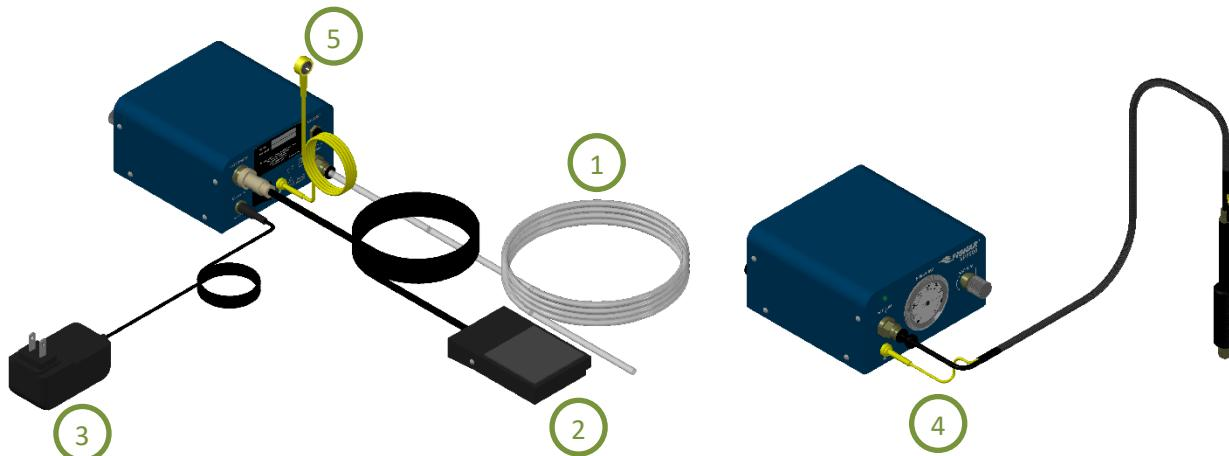

FIG. 4: Machine Setup
1.	Connect air hose (1) from compressed air 70-100 psi (5-7 bar) to the air inlet port on the back of the machine. See FIG. 4.
2.	Insert the Foot Pedal connector (2) to the port on the back of the machine. See FIG. 4.
3.	Attach appropriate country type plug adapter onto the power supply and then connect Electrical Power Cord (3) to the port on the back of the machine. See FIG. 4.
4.	Insert the air connector and ESD grounding plug (4) from the vacuum pickup pen to the ports on the front of the machine. See FIG. 4. If using optional vacuum pickup pen (#580046NH) only the air connector will need to be attached to the port on the front of the machine.
5.	Insert the ESD grounding cable (5) into the port on the back of the machine. The other end of the cable is to be connected to a suitable common ESD Safe grounding point within the workplace environment. See FIG. 4. If there is no requirement for the machine to be used in an ESD Safe work environment, this step can be ignored.